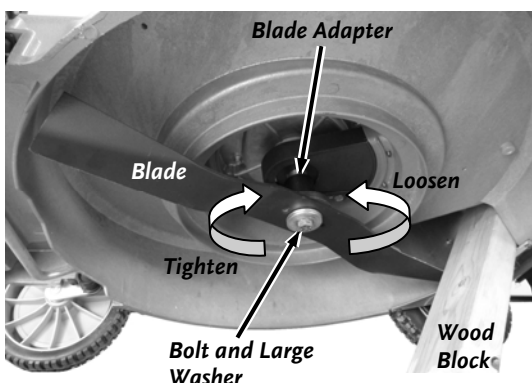

Figure 22
2. Use a block of wood to hold the blade steady (**Figure 22**).